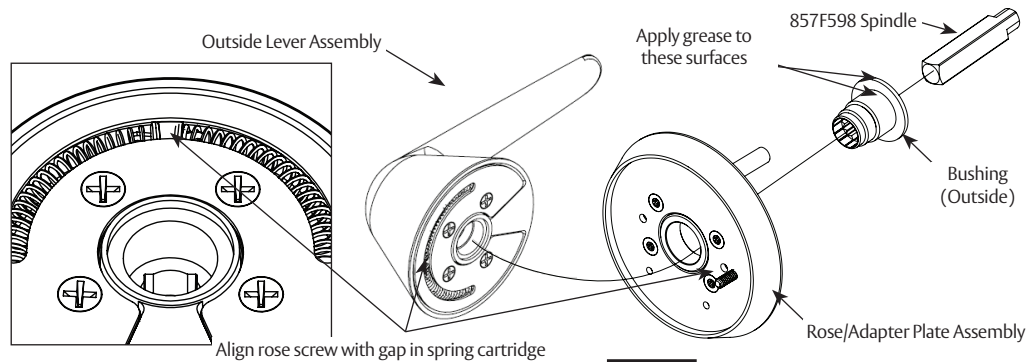

Figure 20
1. Use outside bushing and spindle to connect rose/adapter plate assembly to outside lever assembly. (Figure 20)